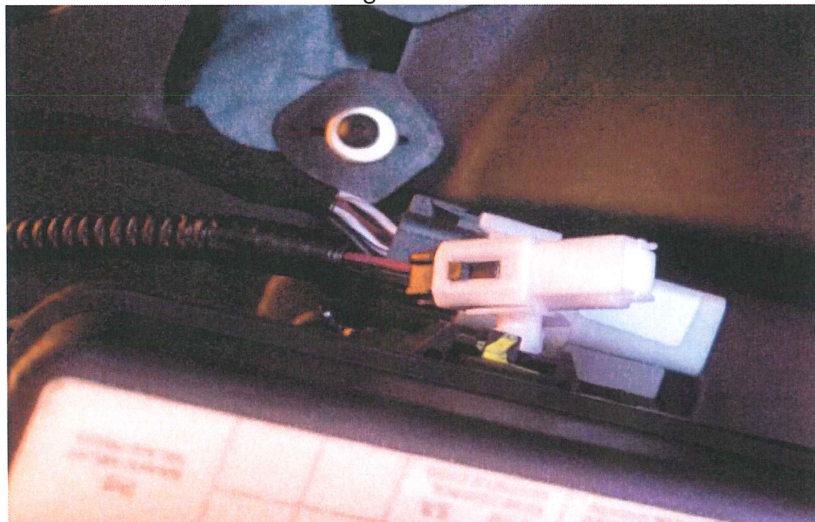

Figure 8
20. Locate the plug near the fuse box as shown in Figure 8.